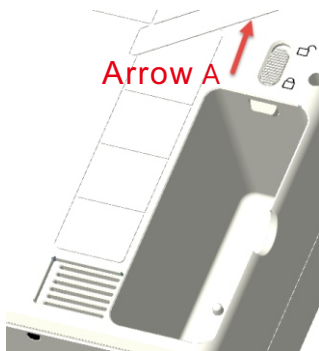
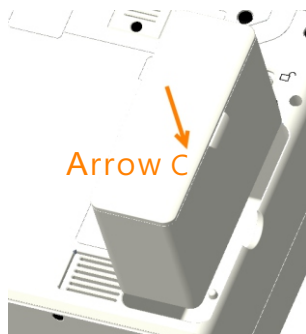

Figure: 12
Figure:13
2. 4.2 Insert Battery Pack (Please refer to Figure 12 and figure 13):